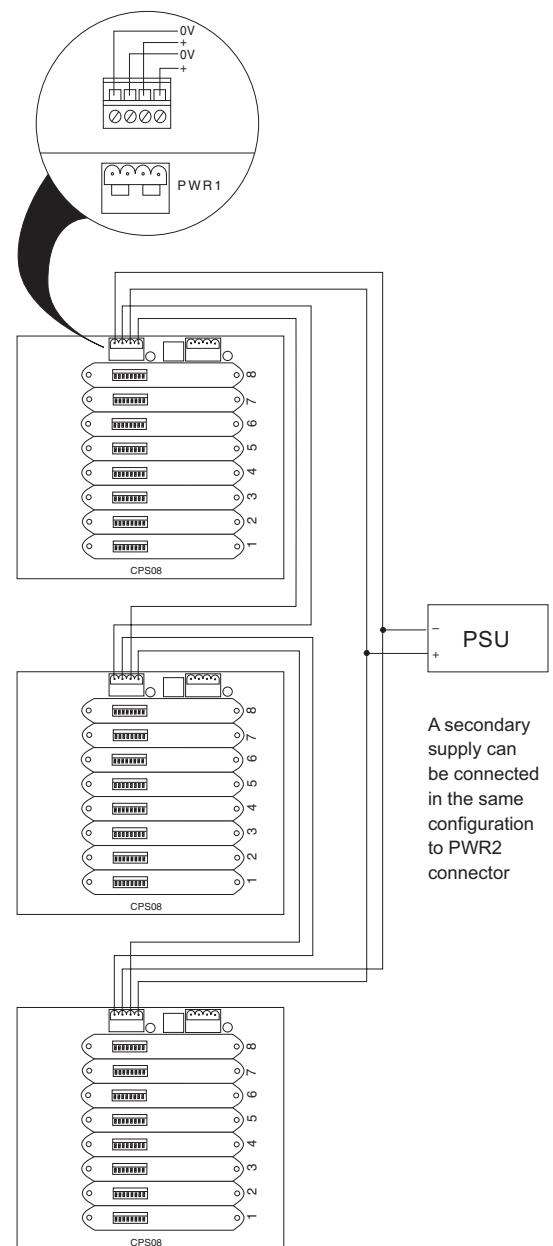

Figure 4.12: "Ring" wiring multiple backplanes
- a) Make the connections shown in Figure 4.12.